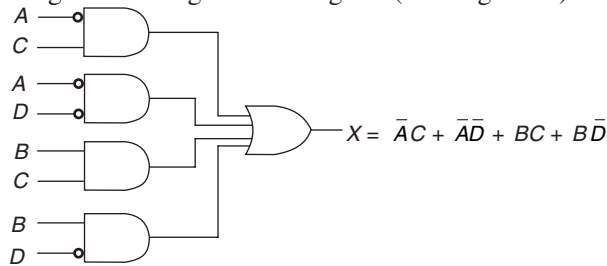

Fig. 5.49 Solution for Problem 18
18. AND gates feeding into an OR gate. (See Fig. 5.49)